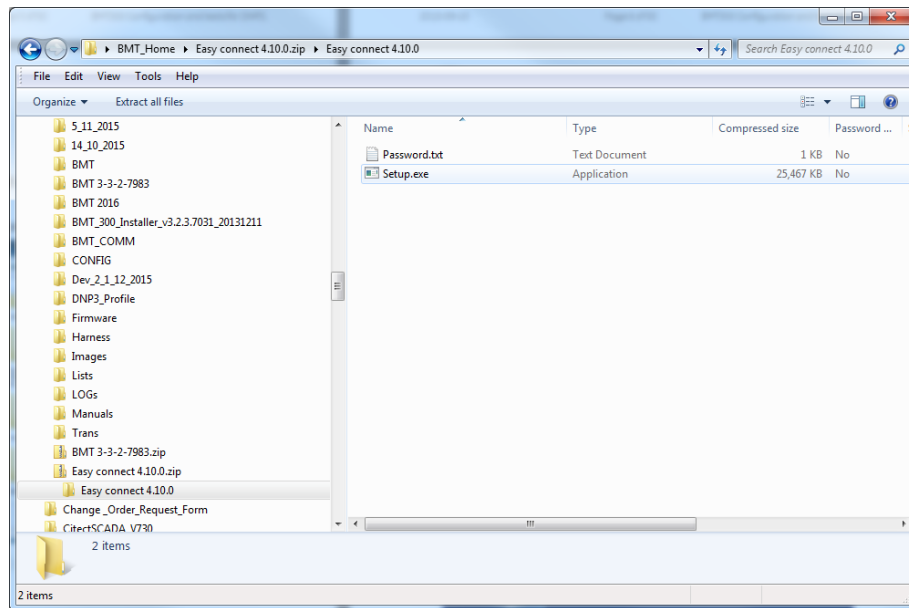

Figure E-5: EasyConnect Setup.exe file
3. Open the **EasyConnect 4.10.0** folder and double-click the **Setup.exe** file to install the software application as shown in Figure E-5.